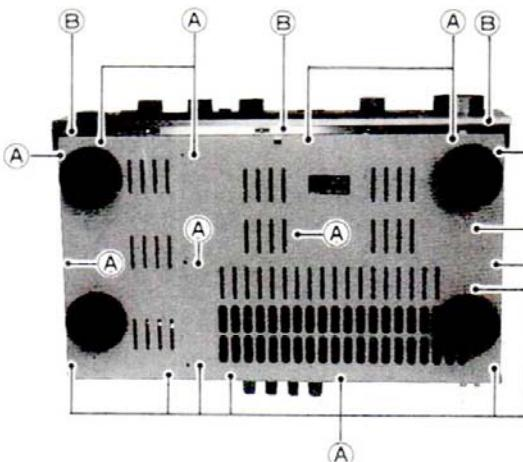

Fig. 1
2. Remove the 18 screws (Ⓐ). See Fig.1 .